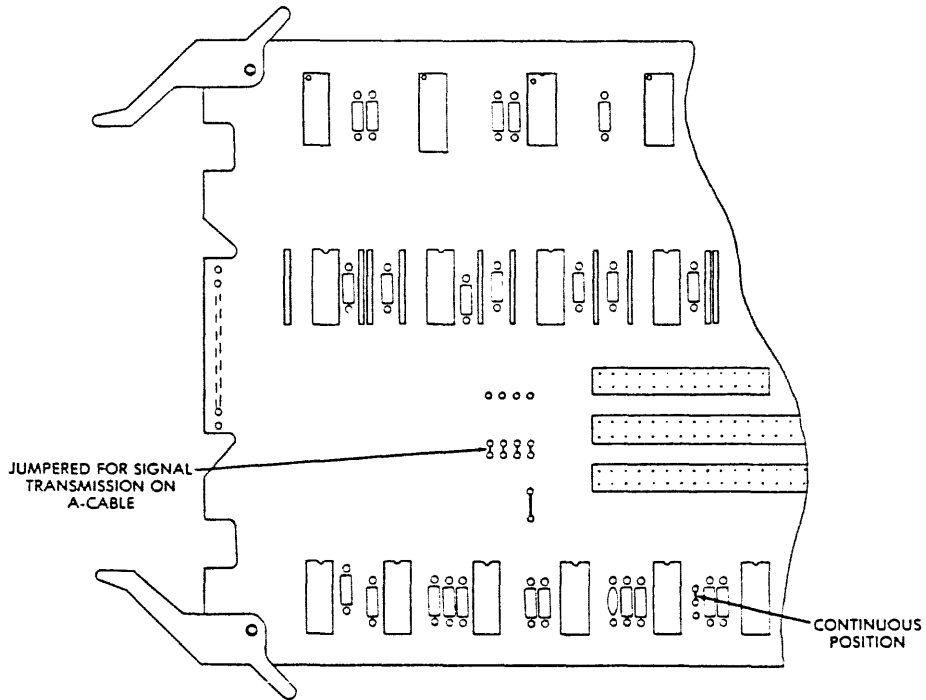

Figure 3-6. FAX Card Jumpered for A-Cable Continuous
- A-cable continuous** The jumpers on the __FAX card (slot A08) must be configured as shown in Figure 3-6. The card should be labeled as CFAF. Dual channel drives have a second card in slot B08 which must be jumpered and labeled in the same way.